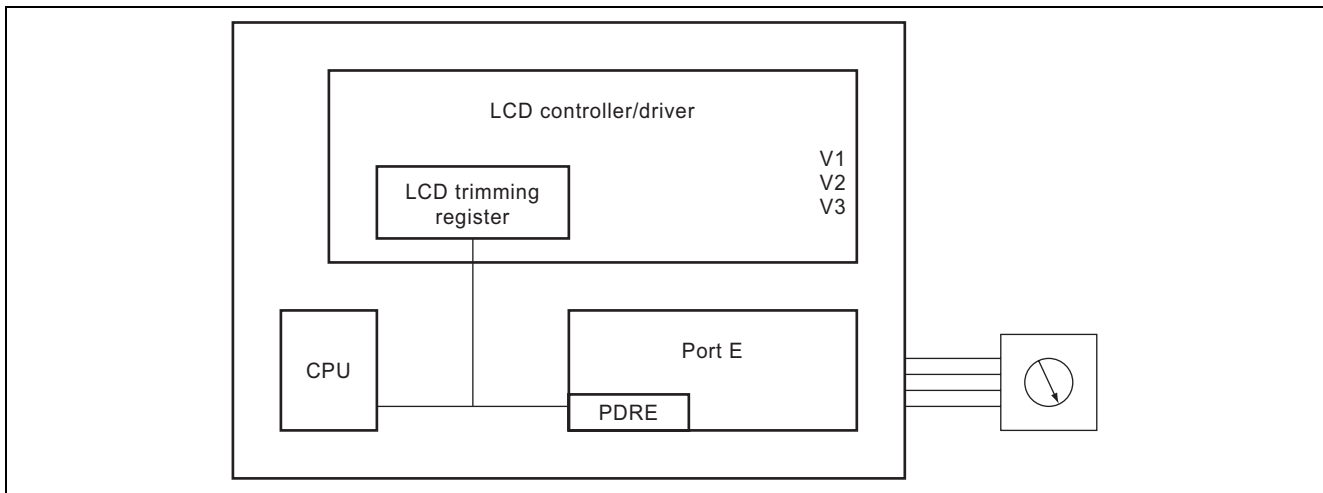

Figure 2 Method for Trimming by Visual Inspection
5. The rotary DIP switch is connected as shown in figure 2 to perform trimming of the output voltage of the 3-V constant-voltage power circuit.